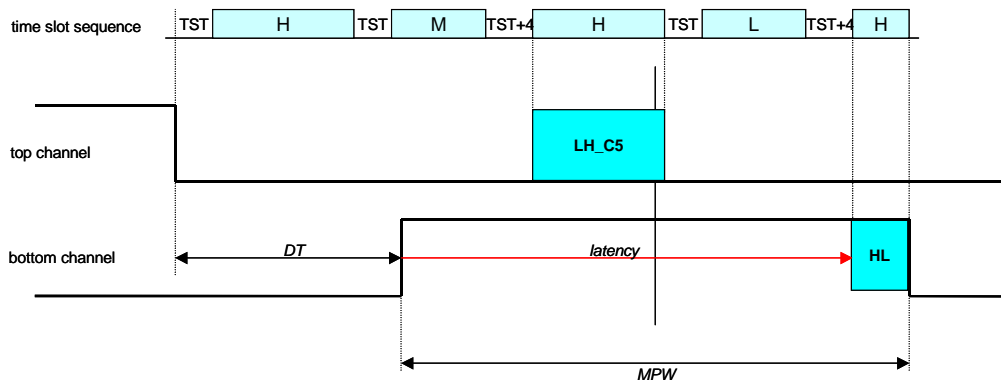
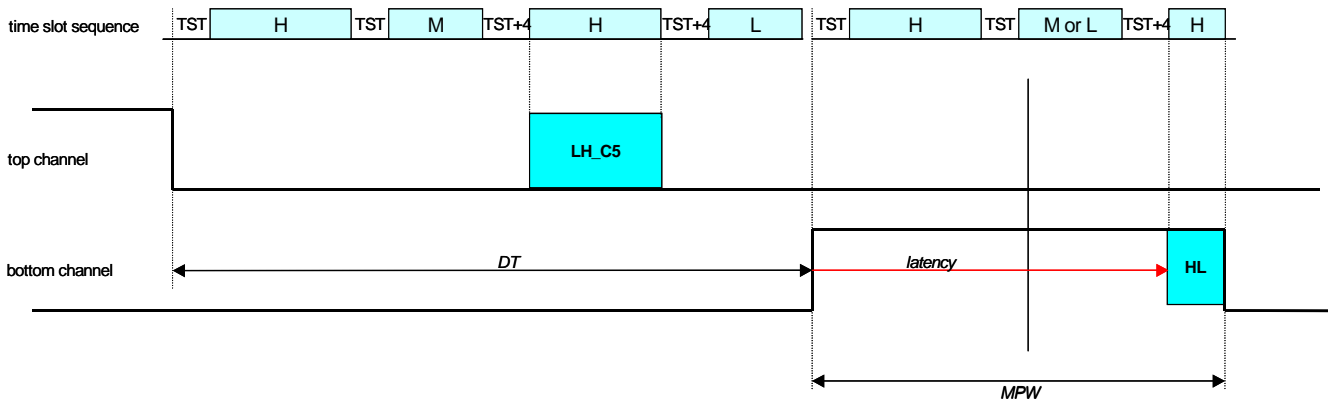

Figure 7. Worst case timing – case one
Figure 8. Worst case timing – case two
In this instance, one of the two worst case timing cases can happen. These are illustrated in **Figure 7** and **Figure 8**. Which case occurs depends on the  $DT$ .
- The first case can occur when the *DT* (in IMB clock cycles) is less than  $TST + H + TST + M + TST+4 + LH\_C5 + TST+4 + L$  (see **Figure 8**) that is  $4 * TST + 8 + H + M + L + LH\_C5$  that is  $76 + H + M + L$  IMB clock cycles.
- In **case one** the *MPW* is (according to **Figure 7**)
- In **case two** the MPW is (according to **Figure 8**)